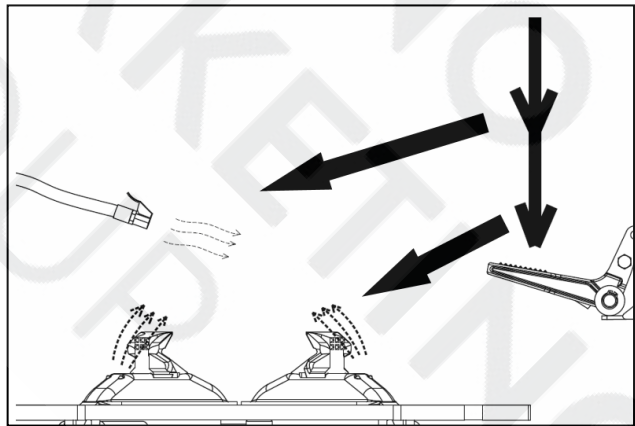

FIG37
- The quick inflation pedal (FIG3-27) on the right side of machine cabinet has two gears: first gear regular inflation; second gear quick inflation like FIG37. Step down the inflation pedal (FIG3-23) to the bottom position (second gear) and observe if the tire lip contacts the rim. If not, repeat the above operation. Then quickly release the pedal when the tire is full to the position of the first gear. While inflate, observe the pressure gauge to confirm the pressure indicated on the pressure gauge not exceeds the pressure specified by the manufacturer